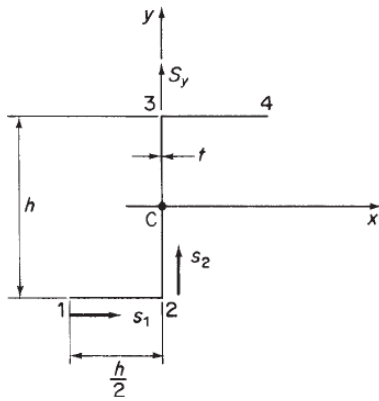

Figure 4a
- 4 a) Determine the shear flow distribution in the thin-walled Z-section shown in Figure 4a due to a shear load S_y applied through the shear centre of the section.